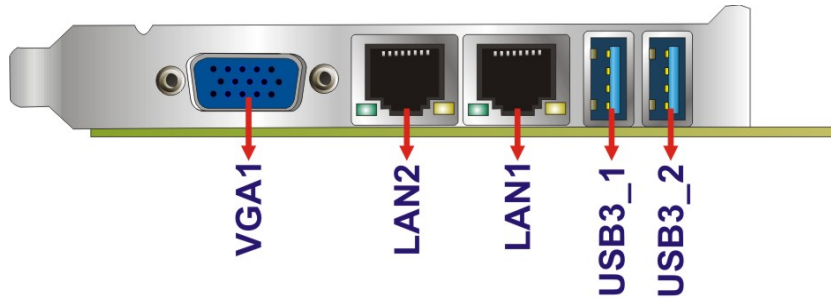

Figure 3-31: External Peripheral Interface Connector
- CN Location:** See Figure 3-31
- CN Location:** See **Figure 3-31**